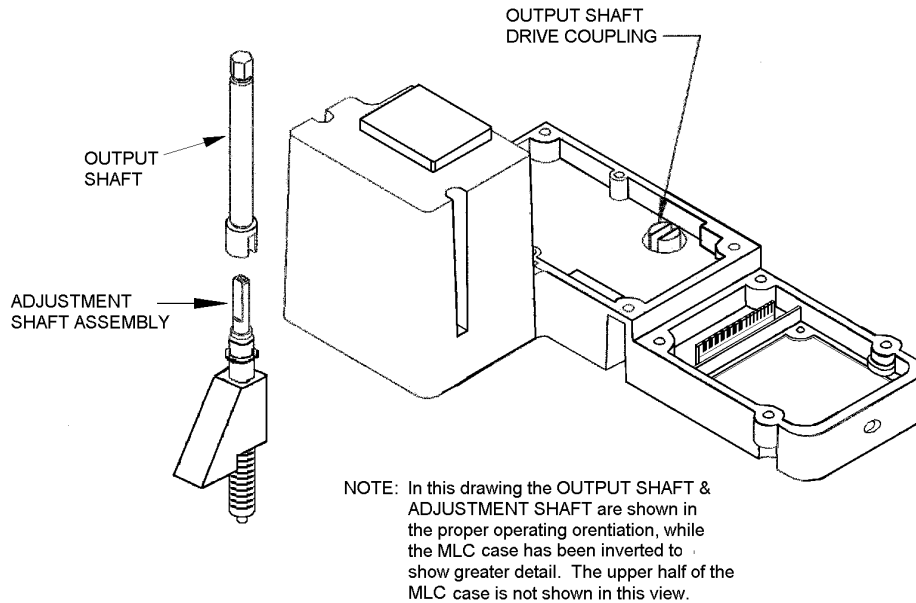

Figure 27 – MLC/Eccentric Mating Components
12. Note the position of the PULSAR adjustment shaft 'flats'. They mate with a slot in the MLC drive coupling of the output shaft (the only external moving part on the MLC). The output shaft is connected to the adjustment knob. Familiarize yourself with these mating components prior to installation (refer to *Figure 27*).